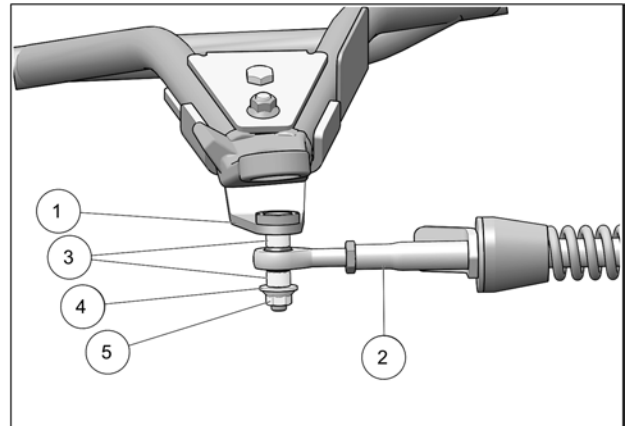

Fig. 19
- Attach the stabilizing rod (2) to the anchor bracket (1), using the two spacers (3), washer (4), and nut (5). Torque to $70\text{ N}\cdot\text{m}$ [$52\text{ lb}\cdot\text{ft}$]. Refer to Fig. 19